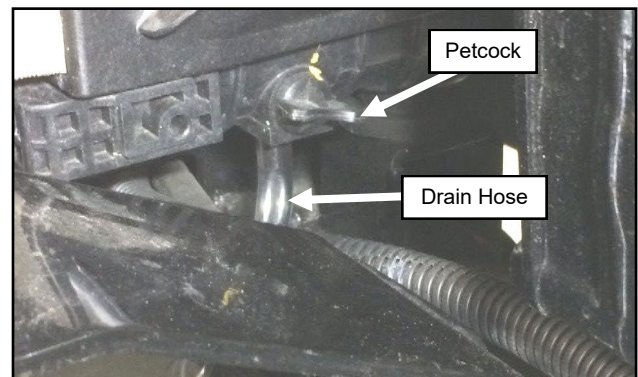

Fig. 17.1 (Petcock Valve Under Radiator, Right Side)
- 17.1** Place a clean coolant drain pan under the radiator. Next, drain coolant from radiator petcock. See fig. 17.1.